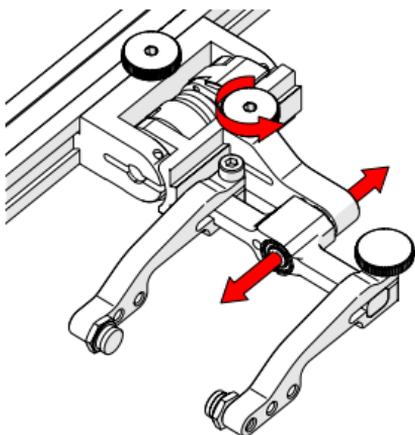

Fig. 91 - Adjust swing arm
3. Use the swing arm knob to position the swing arm (Fig. 91).